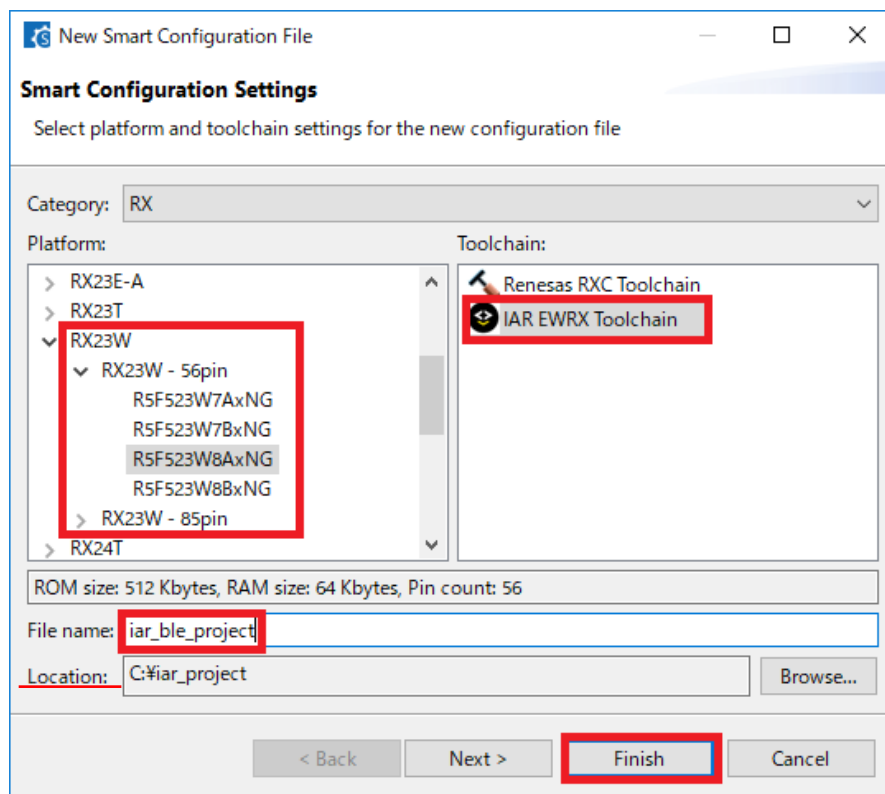

Figure 4.40 : RX Smart Configurator New Project settings
- Copy the “iccrx” directory included in \src\smc_gen\r_bsp\mcu\rx23w\register_access which is in the RX Smart Configurator project location directory (refer Figure 4.40) to \src\smc_gen\r_bsp\mcu\rx23w\register_access which is generated according to 4.9.1.
(2) Copy from the FITDemos